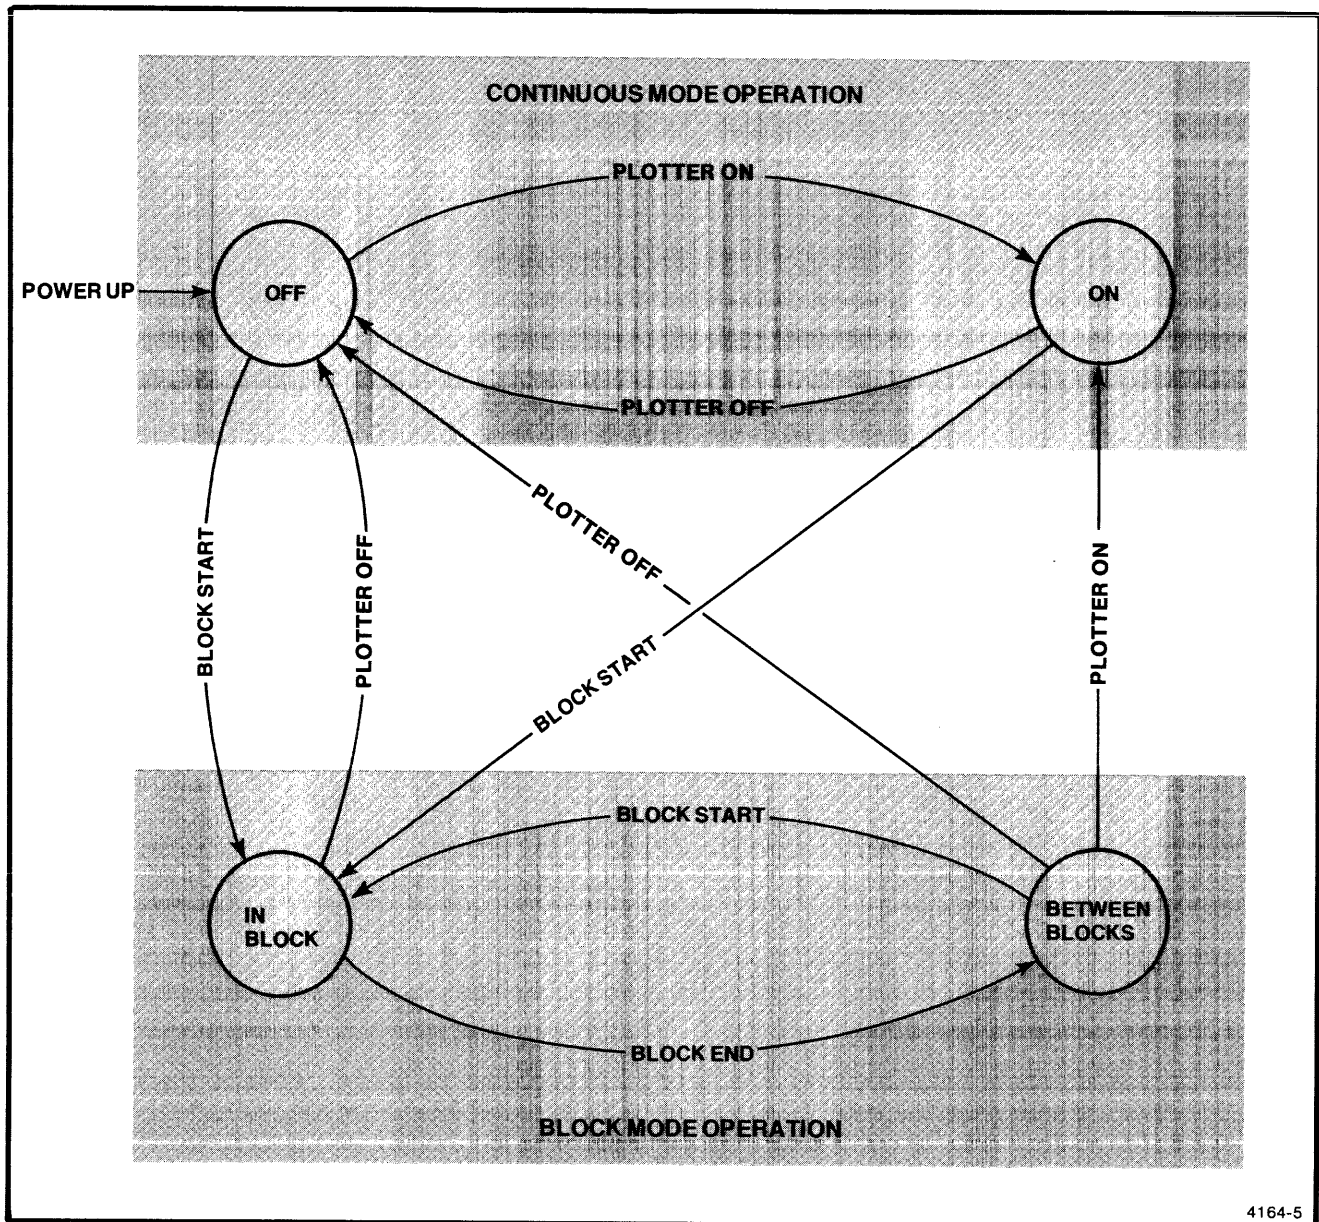

Figure 2-9. Communications Mode State Diagram.
**Turning Block Mode ON and OFF.** Described here are procedures for enabling and disabling Block mode communications. Figure 2-9 is a state transition diagram which illustrates the relationship between Block mode and Continuous mode. Each circle in the figure represents an interface "state" where certain processing steps (described later) are performed on the received commands. Each arc connecting the circles represents a "change of state" when the specified command is received.